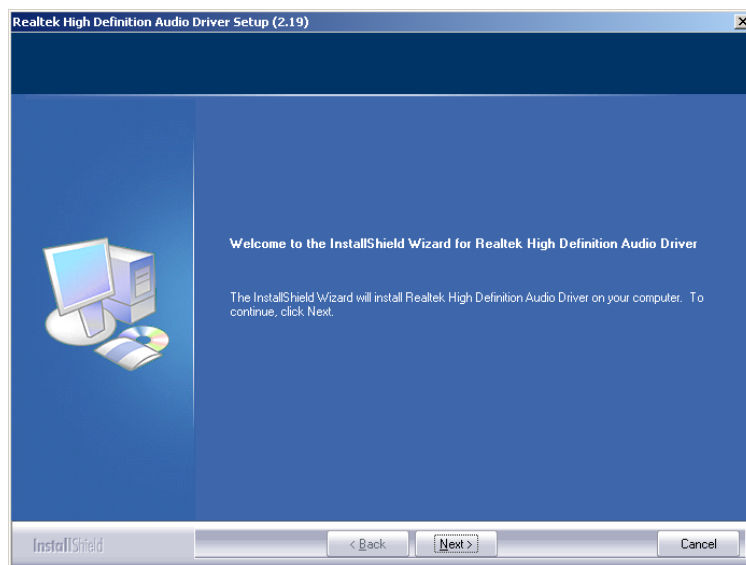

Figure 6-21: InstallShield Wizard Welcome Screen
Step 6: Once initialized, the **InstallShield Wizard** welcome screen appears (Figure 6-21).